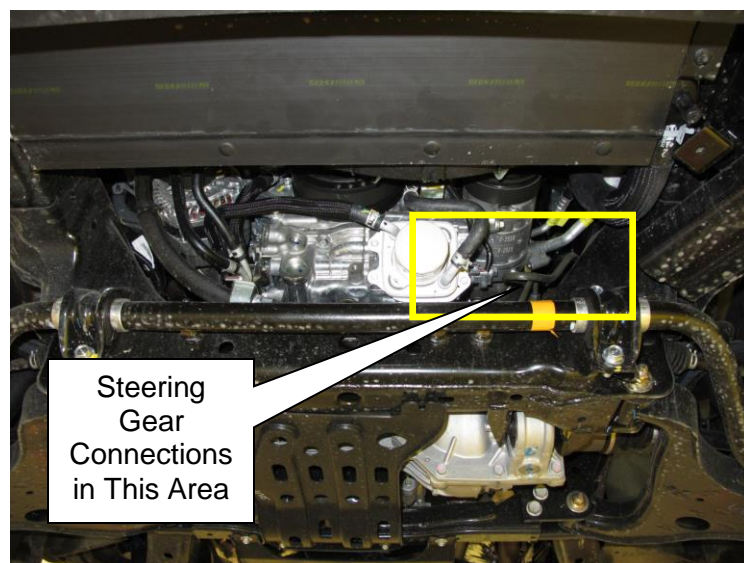

Figure 2
2. Locate the steering gear (rack & pinion) connections for the Power Steering Oil Return Pipe Assembly and Power Steering Oil Pressure Hose Assembly (Figure 2, 3).